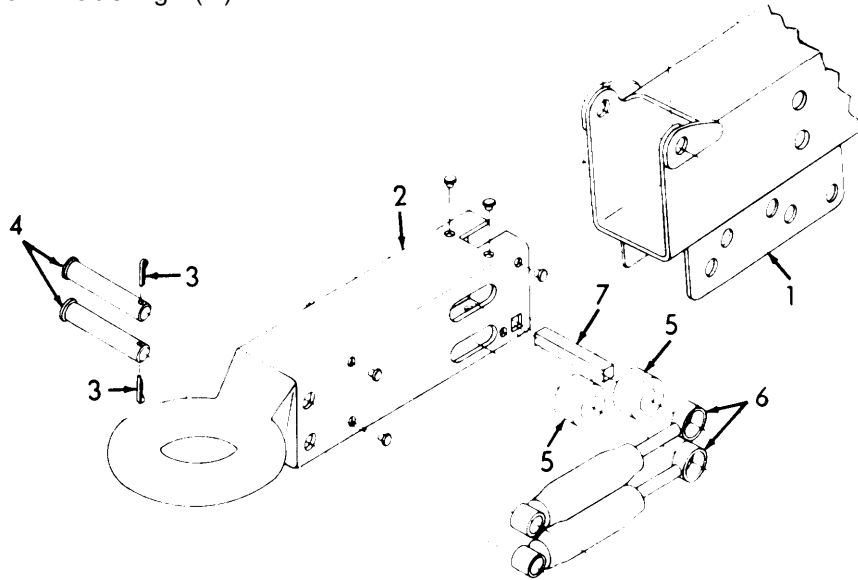

Figure 3-52. Damper, Installation"
- (1) Position two ampers (6, Figure 3-52) and two rollers (5) in lunette eye (2).
- (2) Install two damper pins (4) and two new cotter pins (7997) (3).
- (3) Install push rod block (7) and position lunette eye (2) in actuator housing (1).